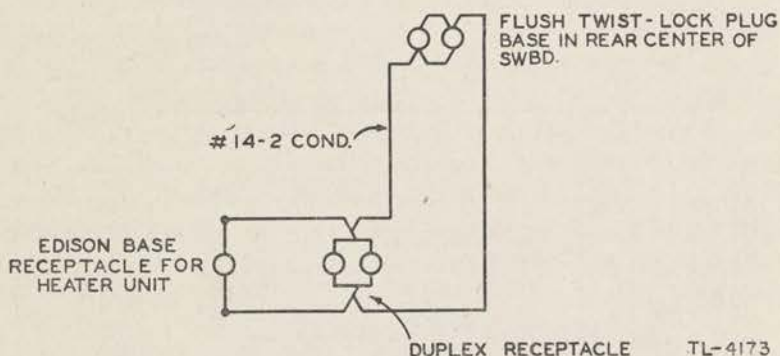

FIGURE 29.—Power and heating circuit, wiring diagram.
**23. Power and heating circuit, 110-120 volts, alternating current (fig. 29).**—This circuit includes two heating units for drying the switchboard and one outlet for soldering iron or extension lamp.